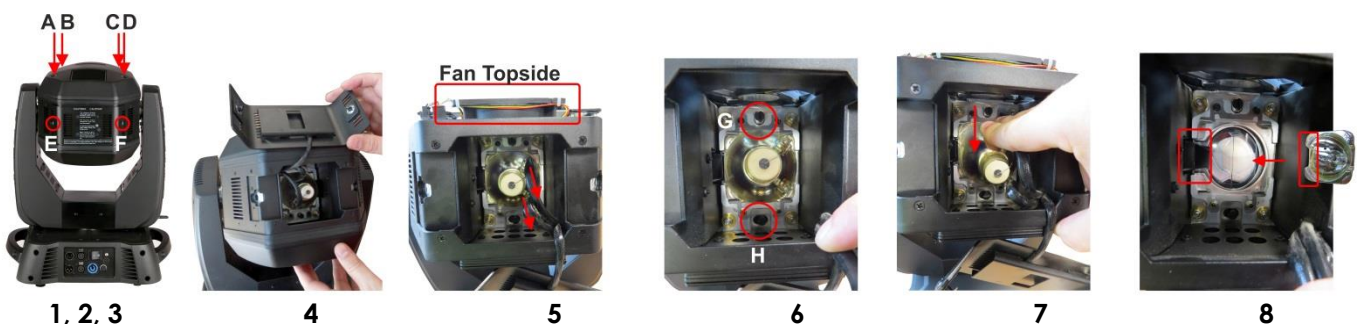

Fig. 03
- 09) Read lamp instructions. Do not touch the lamp bulb glass (see fig.03). Oil on hands shortens the lamp life. (If you touch the bulb glass, wipe off the glass with a clean, lint-free towel and rubbing alcohol.)